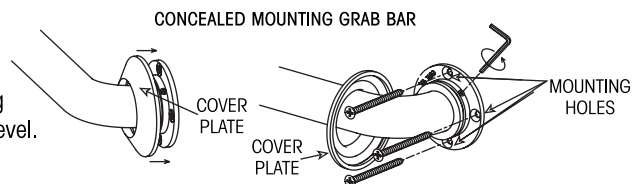

FIGURE 1
1. Remove the Grab Bar and parts from the package. If concealed mounting Grab Bar is used, move cover plates away from mounting holes (see Figure 1).
7. If concealed mounting Grab Bar is used, move cover plates over mounting holes and firmly press against the wall (see Figure 1 on page 2).
11. If concealed mounting Grab Bar is used, move cover plates over mounting holes and firmly press against the wall (see **Figure 1** on page 2).